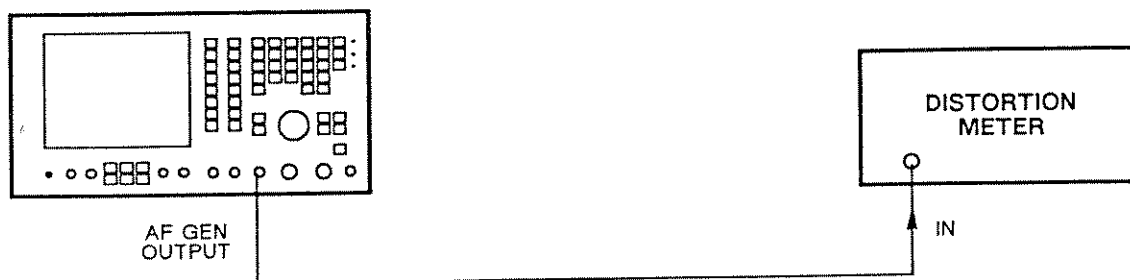

Fig. 6-13 Test equipment connections for AF generator distortion
- (1) Connect the distortion meter to the AF GEN OUTPUT socket. See Fig. 6-13.
- (2) On the 2955B, set the MODE to AUDIO TEST. Ensure that GEN 1 is ON and GEN 2 is OFF. Press the TONES and AUDIO SETUP keys. Set the GEN 1 FREQ to 5 kHz, LEVEL to 2 V and SHAPE to SINE.
- (3) Tune the distortion meter and check that the reading is <math><0.6\%</math>.
- (4) Reset the GEN 1 FREQ to other frequencies and LEVEL to other deviations between 50 Hz and 15 kHz.
- (5) On the 2955B, reset the AF GEN FREQ to 1 kHz.
- (6) Tune the distortion meter and check that the reading is <math><0.3\%</math>.